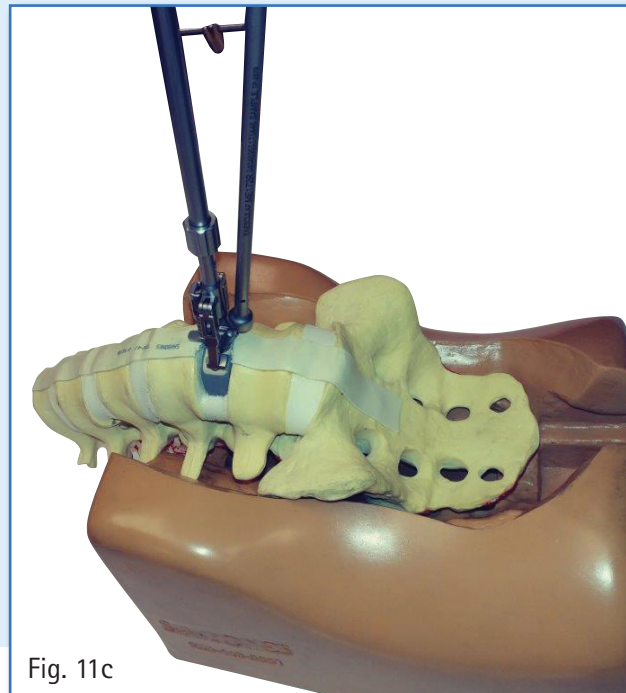

Fig. 11c
- The implant insertion instrument can be utilized for implant stabilization during medial screw hole preparation and insertion (Fig. 11c).
- Guide the bone awl through the distal opening of the implant insertion instrument (caudal side) (Fig. 11c).